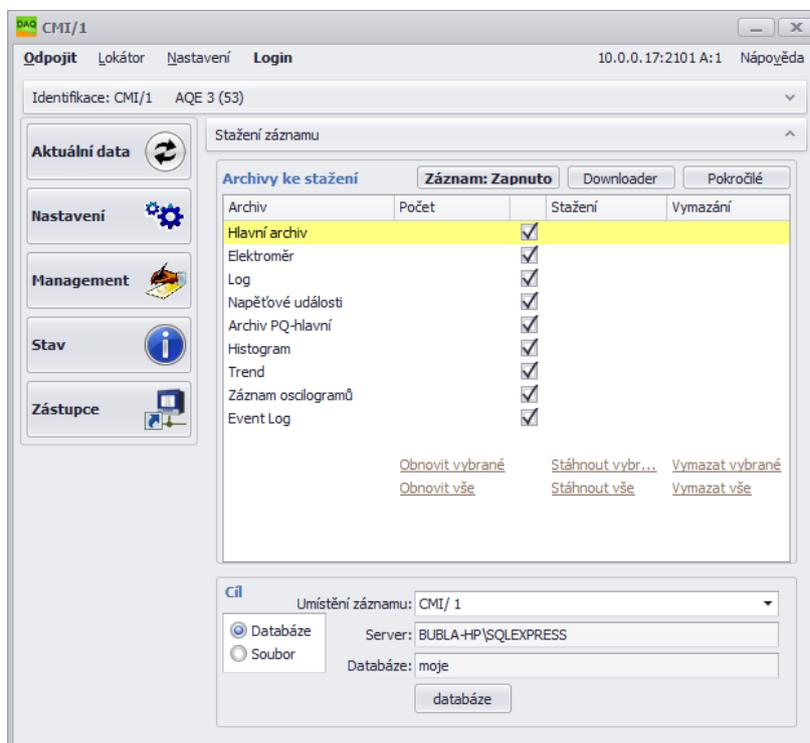

Figure 9: ENVIS.Daq application window with connected analyzer.
5. Press *Connect* on menu or *ENTER*. The application attempts to connect to the specified device. If the connection is successful, it loads the settings stored in the device and displays a summary window (fig. 9).